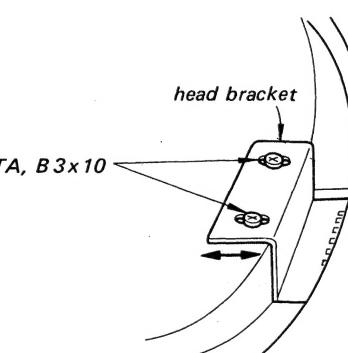
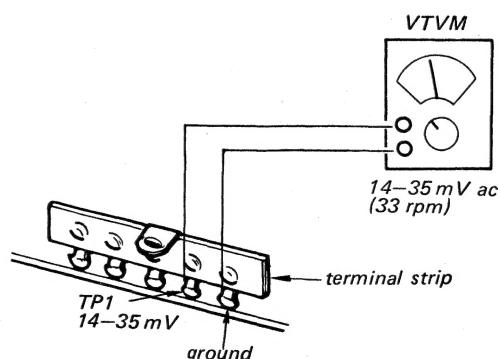

Fig. 3-2
Fig. 3-3
1. Adjust the position of the head bracket by loosening B 3x10 screws (See Fig. 3-2) so that the VTVM reads 14-35 mV (33 rpm) as shown in Fig. 3-3.